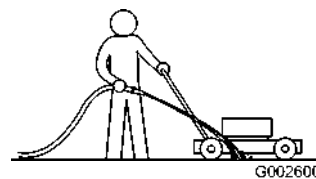

Figure 18
3. With the engine running and the blade engaged, spray a stream of water in front of the **right, rear wheel** (Figure 18).